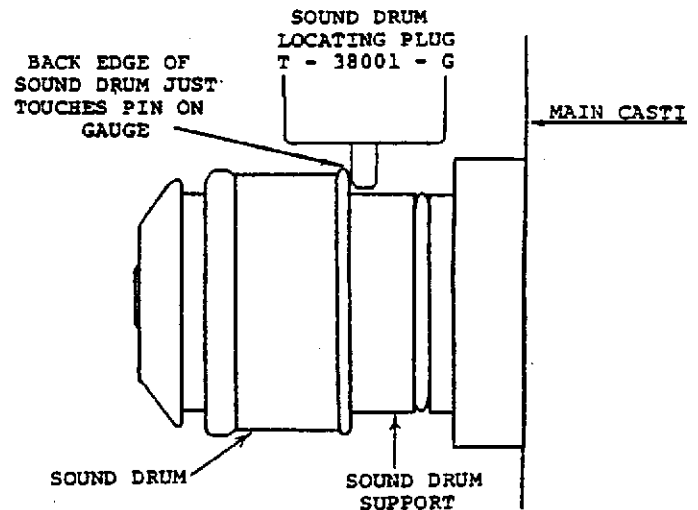

Figure 3-84. SOUND DRUM ALIGNMENT
- d. Insert the Sound Drum in the Sound Drum Support and push this entire assembly toward the main casting until the back edge of the Sound Drum just touches the Pin on the Locating Plug. (Figure 3-84) Be sure to maintain the centering accomplished in Step c while making this adjustment.